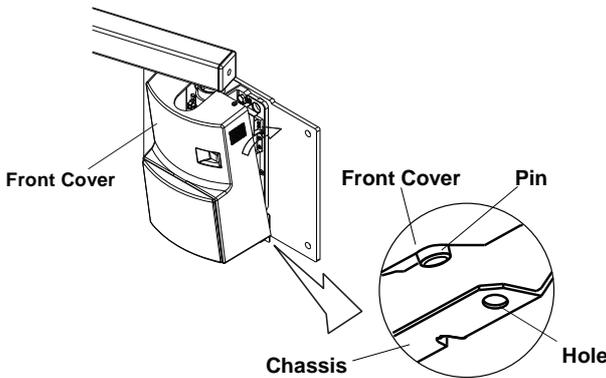

Fig.3-9A Attaching Front Cover-1
1. Set the pins located on the bottom of the front cover into holes on the bottom of metal chassis, and then push the top side toward the wall to close. **(Fig.3-9A)**